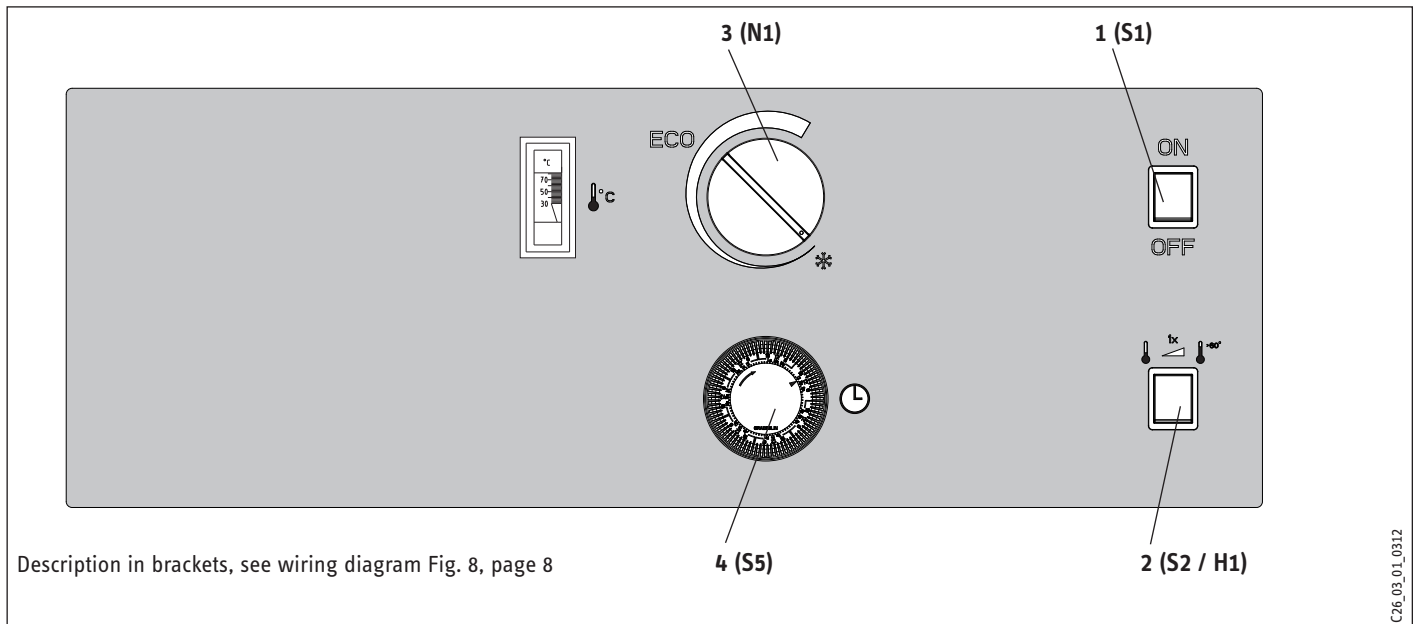

Abb. 1
The water inside the cylinder will be heated to 55 °C by the electrical supplementary heater, which is controlled by the programmable time switch, subject to the heating period being long enough. This enables the option of making greater mixing water volumes available at certain times. At all other times, the water will be heated to the temperature selected on the controller (see page 4, Fig. 1, item 3).